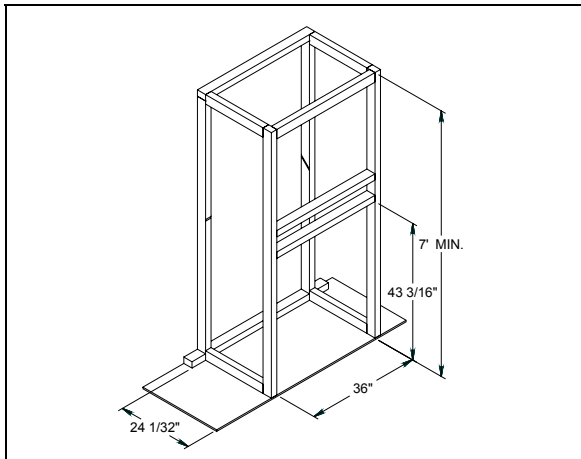
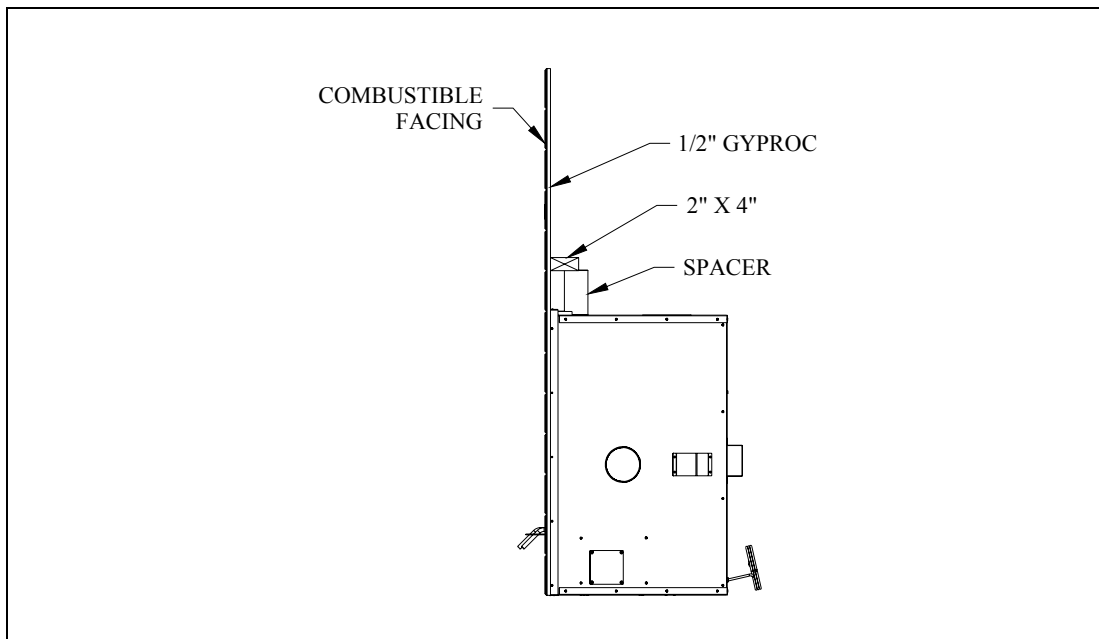

Figure 6
Figure 11
- C. Frame the fireplace with vertical studs at the sides of the fireplace running from floor to ceiling (see figure 6). Position the studs back from the front edge of the fireplace, a space the thickness of the facing material so that the facing can be installed flush with the fireplace facing (within limitations of figure 11). Frame headers between the vertical studs only as follows:
1. Combustible material may be installed flush with the fireplace decorative frame. Combustible material may not project in front of and onto the fireplace decorative frame (figure 11).